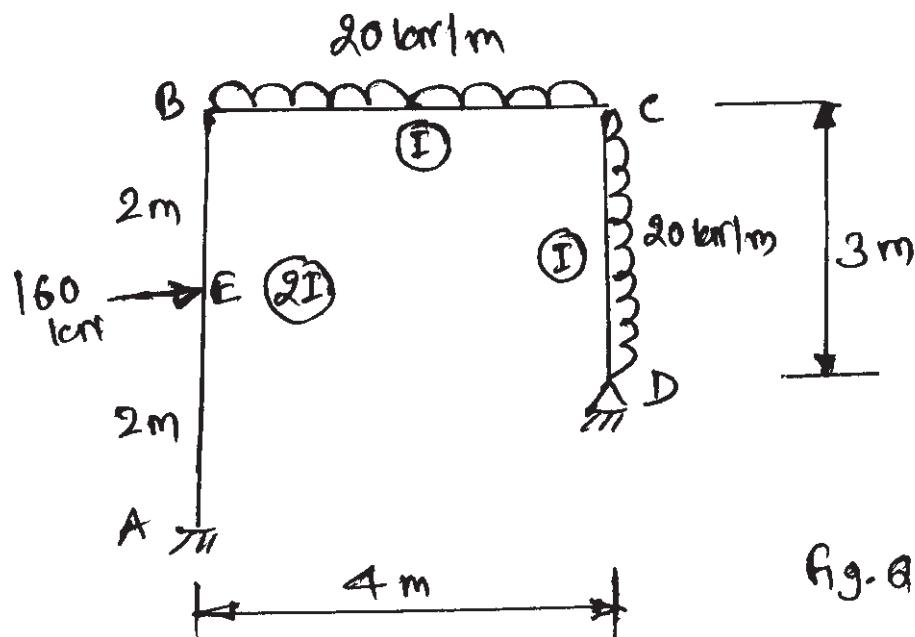

fig. Q. 8.
- Q8)** Analysis the rigid jointed plane frame supported and loaded as shown in fig. Q.8 by flexibility method. Draw B.M.D and elastic curve. [16]